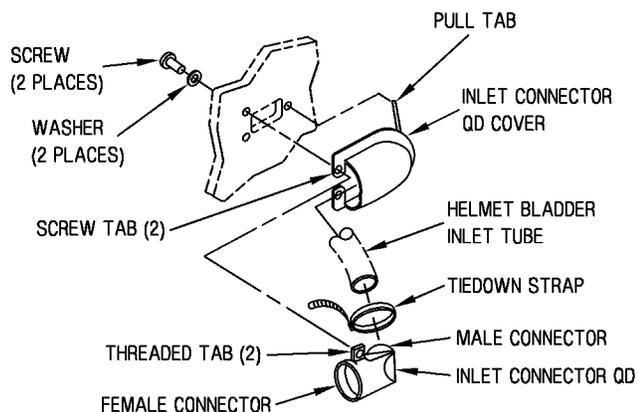

Figure 4. Bladder Installation
(6) Remove backing from pile fastener tabs and press firmly in position at marked locations on the bladder.
(7) Turn bladder over; determine center of bladder and mark using white chalk on bottom edge of bladder.
(8) Remove backing from hook fastener tab, align center of tab with mark on bladder centerline, and install tab horizontally along bottom edge of bladder.
(9) Put bladder in helmet assembly interior to verify correct fastener tab alignment and positioning.
(10) Document per OPNAVINST 4790.2 series. (QA)
f. Put inlet supply tube over the inlet connector QD. Refer to figure 4